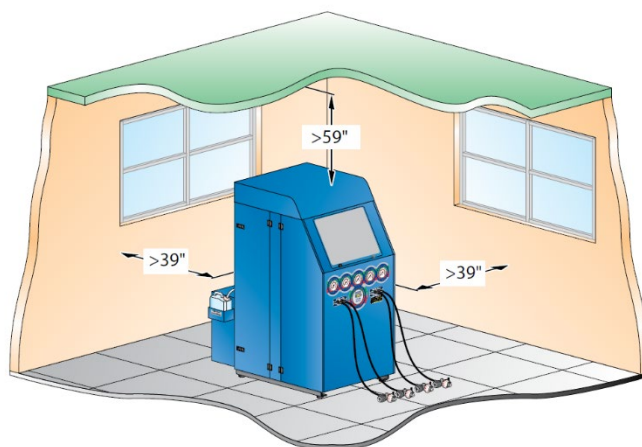

Figure 7. Illustration of proper positioning.
- Place the system in a permanent location allowing a minimum spacing of 39 inches (1 m) from adjacent walls and inches 59 inches (1.5 m) from ceiling (Figure 7).